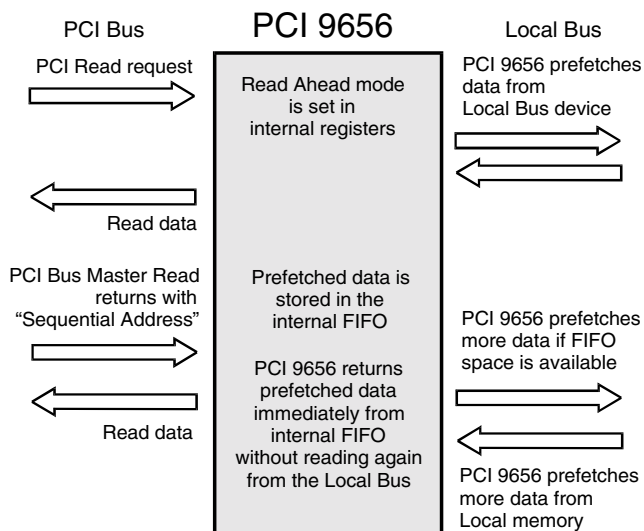

Figure 3-9. Direct Slave Read Ahead Mode
**Note:** Figure 3-9 represents a sequence of Bus cycles.